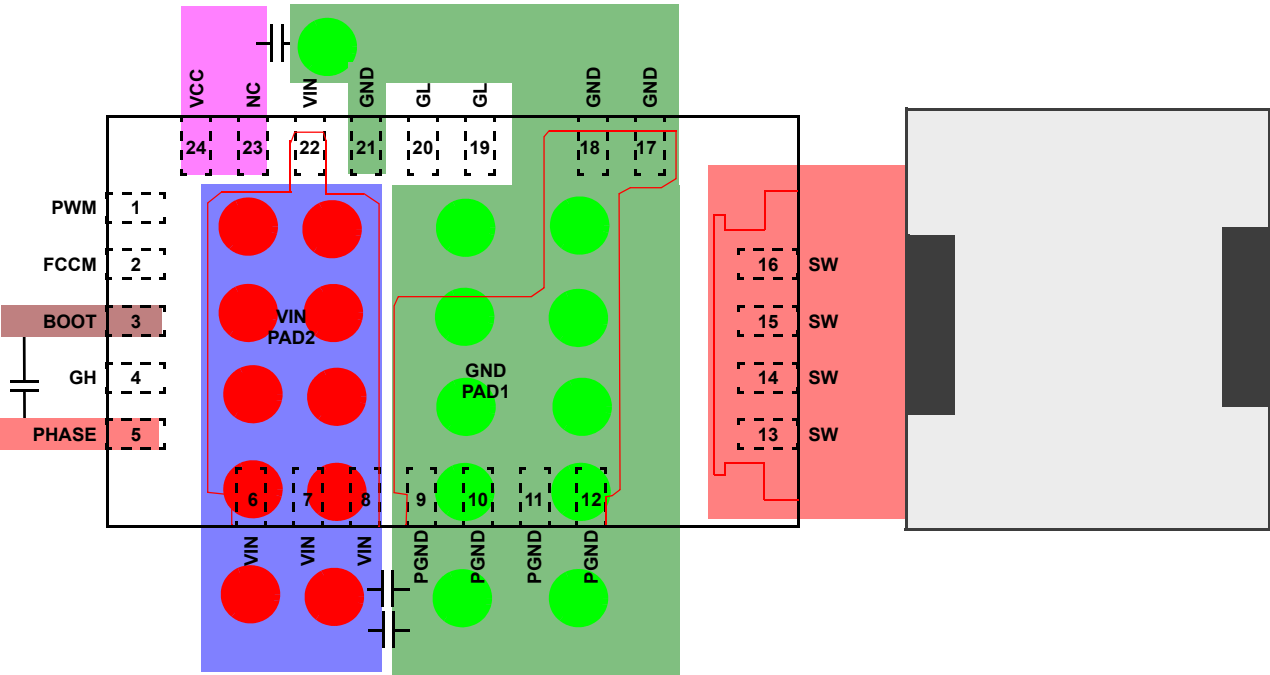

FIGURE 20. PCB LAYOUT FOR MINIMIZING CURRENT LOOPS
- Place multiple 10 μ F or greater ceramic capacitors directly at the device between VIN and PGND as indicated in Figure 20. This is the most critical decoupling and reduced parasitic inductance in the power switching loop. This will reduce overall electrical stress on the device as well as reduce coupling to
- Place VCC and BOOT-PHASE decoupling capacitors at the IC pins as shown in Figure 20.